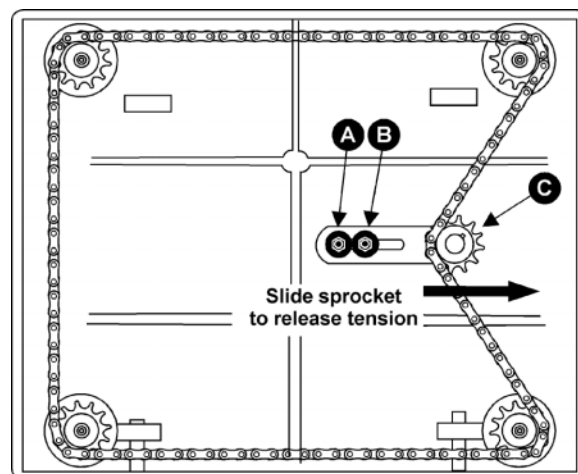

Figure 20
2. Remove bolts holding the planer to the stand. Carefully tilt planer on its side to expose underside of base (Figure 20).
3. Remove bolt (A, Figure 20) and loosen bolt (B, Figure 20) which will allow you to move the idler sprocket assembly (C, Figure 20) far enough to release tension on the chain.
6. When adjustments are correct, replace chain around corner sprocket, slide idler sprocket (C-Figure 20) back to re-tension chain, tighten bolt (B, Figure 20) and insert and tighten bolt (A, Figure 20).